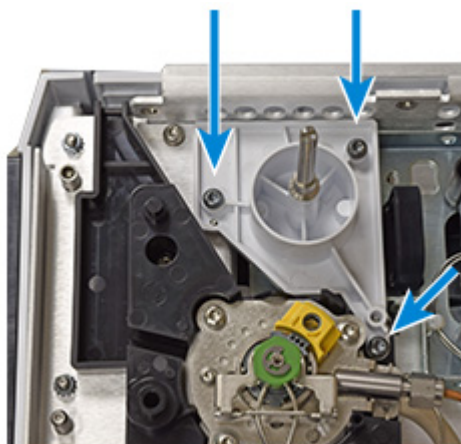

Figure 16 Launching the maintenance wizard
- 2 Launch the GC maintenance wizard (Figure 16) and follow the prompts. The wizard will walk through the steps needed to replace the detector tail. These steps are provided below for reference.